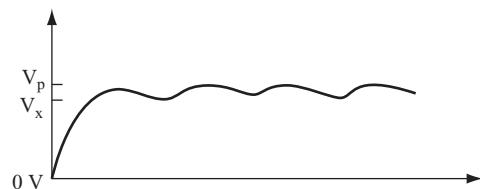

FIGURE 11.48
Figure 11.48 shows the waveform that results from using a smoothing capacitor.
B. What is the average DC level for the waveform in Figure 11.48 given that $V_p = 40$ volts? _____